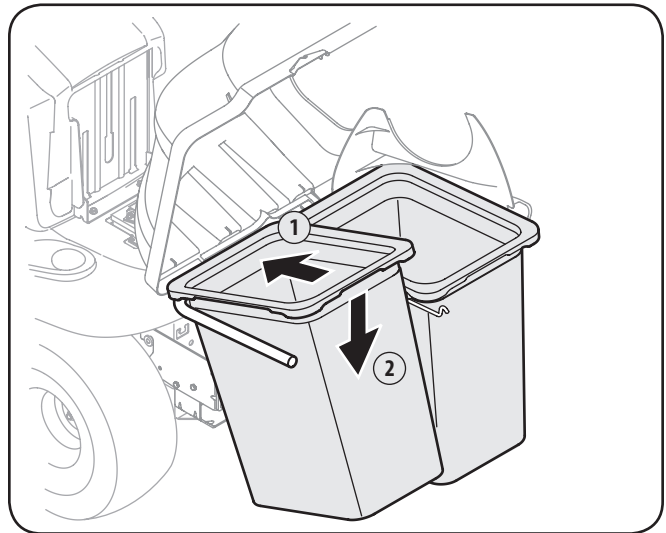

Figure 4-17
8. Install both bag assemblies with the tight mesh sides facing forward, onto the bag support brackets by inserting the front edge in first, as seen in Figure 4-17, and setting the back edge down until it fits into the assembly.